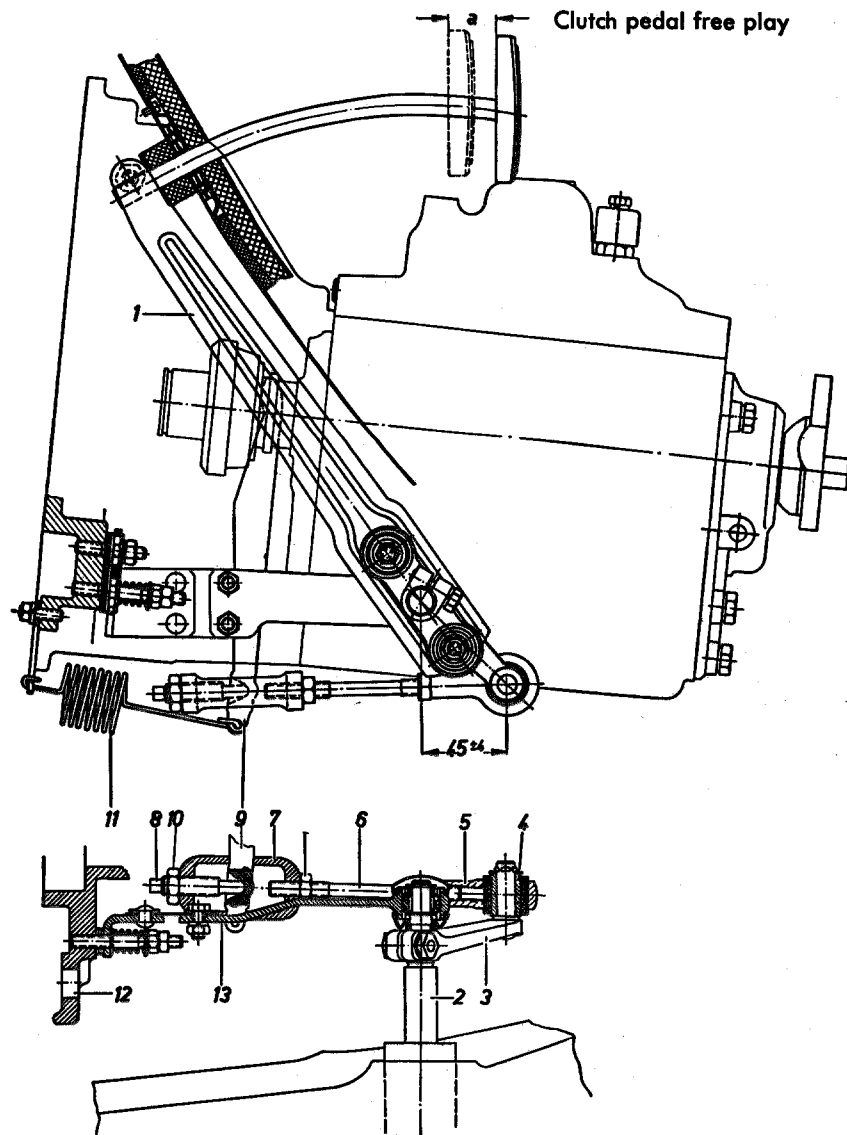

Fig. 29 — 3/1
1. Loosen the hexagon nut (10) for the threaded bolt (8) at the clutch actuating mechanism. Screw the threaded bolt (8) in or out until the clutch pedal free play is $a = 25$ mm (Fig. 29 — 3/1).
case the length of the clutch linkage has to be adjusted. For this purpose loosen the two hexagon nuts (14) of the pull rod (6) and turn the pull rod (6) as required (see Fig. 29 — 3/1).
3. If necessary check the position of the lever (3) on the clutch pedal shaft (2).
The distance from the middle of the lever eye (3) to the middle of the pedal shaft (2) must be 45 ± 4 mm with the clutch pedal (1) resting against the top of the rubber stop (see Fig. 29 — 3/1). Correction is possible by changing the position of lever (3) on the splines of the clutch pedal shaft (2) (see Job No. 29 — 5).